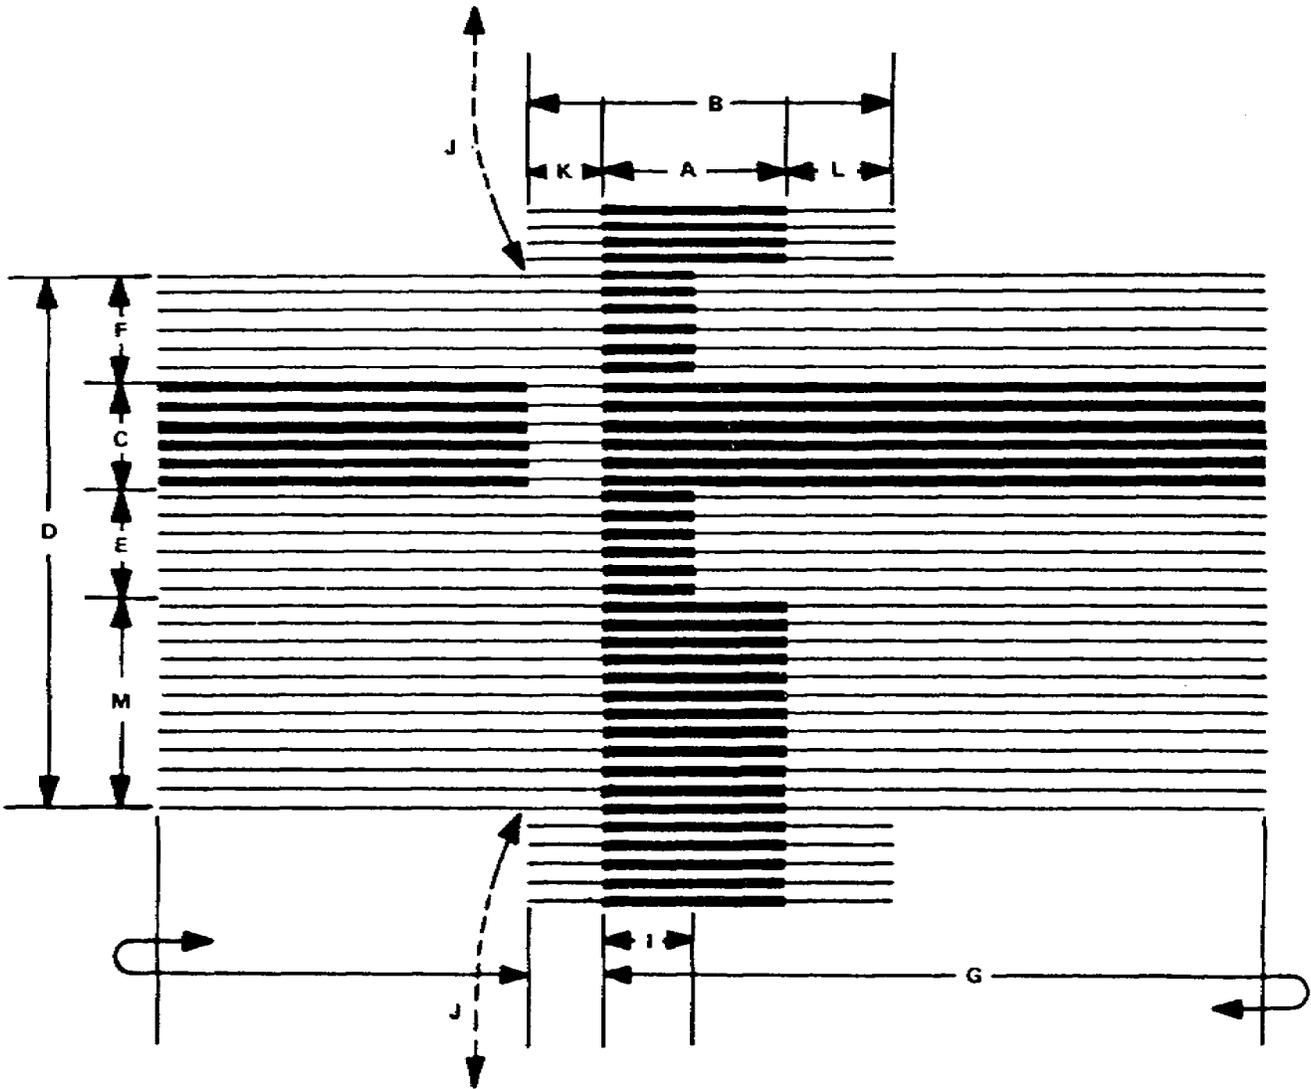

Figure 3-26. Pulse cross display
f. Interpretation of the pulse cross display is relatively easy when you understand that the individual pulse amplitudes are indicated by light intensity. In the pulse cross display shown in Figure 3-26 the horizontal dimensions of the light intensities are relative measures of time or pulse widths. Use Figure 3-26 to identify the following pulse group patterns:
- (1) The horizontal synchronizing pulse duration (0.075H-0.98H).
- (2) The horizontal blanking pulse duration (0.165H-0.18H).
- (3) The vertical synchronizing pulse interval (0.42H-0.44H).
- (4) The vertical blanking interval (13.1H-21.0H).
- (5) E and F- the equalizing pulse intervals.
- (6) G- the six dark lines which show vertical synchronizing pulse duration.
- (7) I- the equalizing pulse duration (0.5 horiz sync width).
(8) H- the horizontal blanking and synchronizing pulses that continue to occur at the end of each horizontal video scan line until the beginning of the next vertical blanking interval.
- (9) K- the front porch of the horizontal blanking pulse ( $0.02H$ ).
- (10) L- the back porch of the horizontal blanking pulse ( $0.05H$ ).